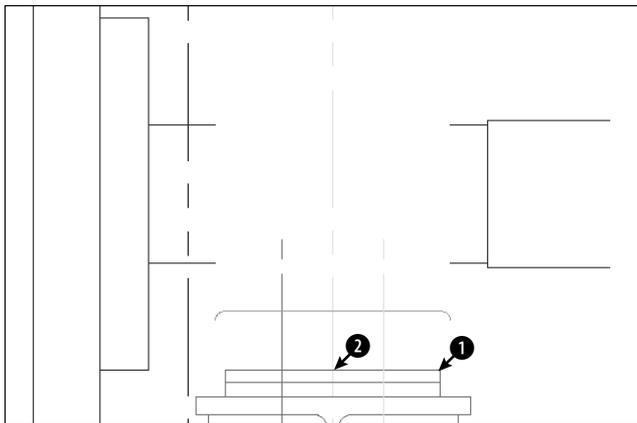

Figure 16-2: A small section of a drive block.
2. Save the file as `ab16-01.dwg` in your `AutoCAD Bible` folder. It shows a small section of a drive block, as shown in Figure 16-2. In this exercise, you complete part of the drawing. ORTHO and OSNAP should be on. Set running object snaps to endpoint, midpoint, and intersection. Layer 3 should be current.
Base point: Choose **1** in Figure 16-2.
Base point: *Choose point 2 in Figure 16-2.*